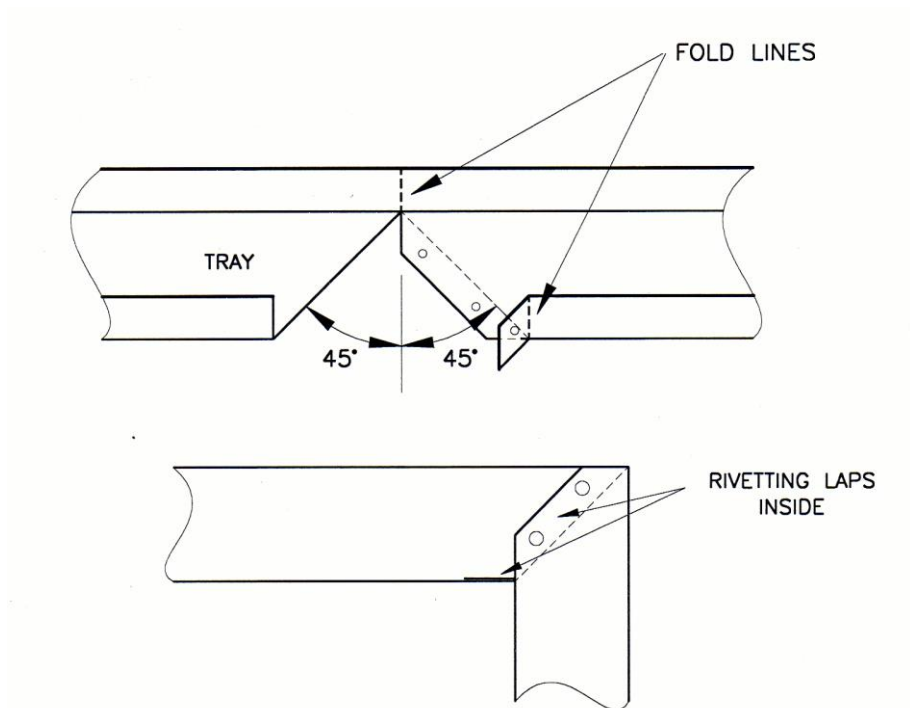

Figure 7 - Typical construction of a mitre in cable tray.
21. The basic technique can be the same for both types, but you need to take special care when marking out an external mitres because you will probably be marking it out upside-down. The construction of a typical mitre is shown in Figure 7.